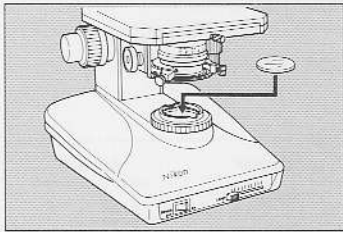

Fig.3-1
- 1) Put the NCB 11 filter (or necessary filter) on the filter receptacle of the field lens part (Fig. 3-1).